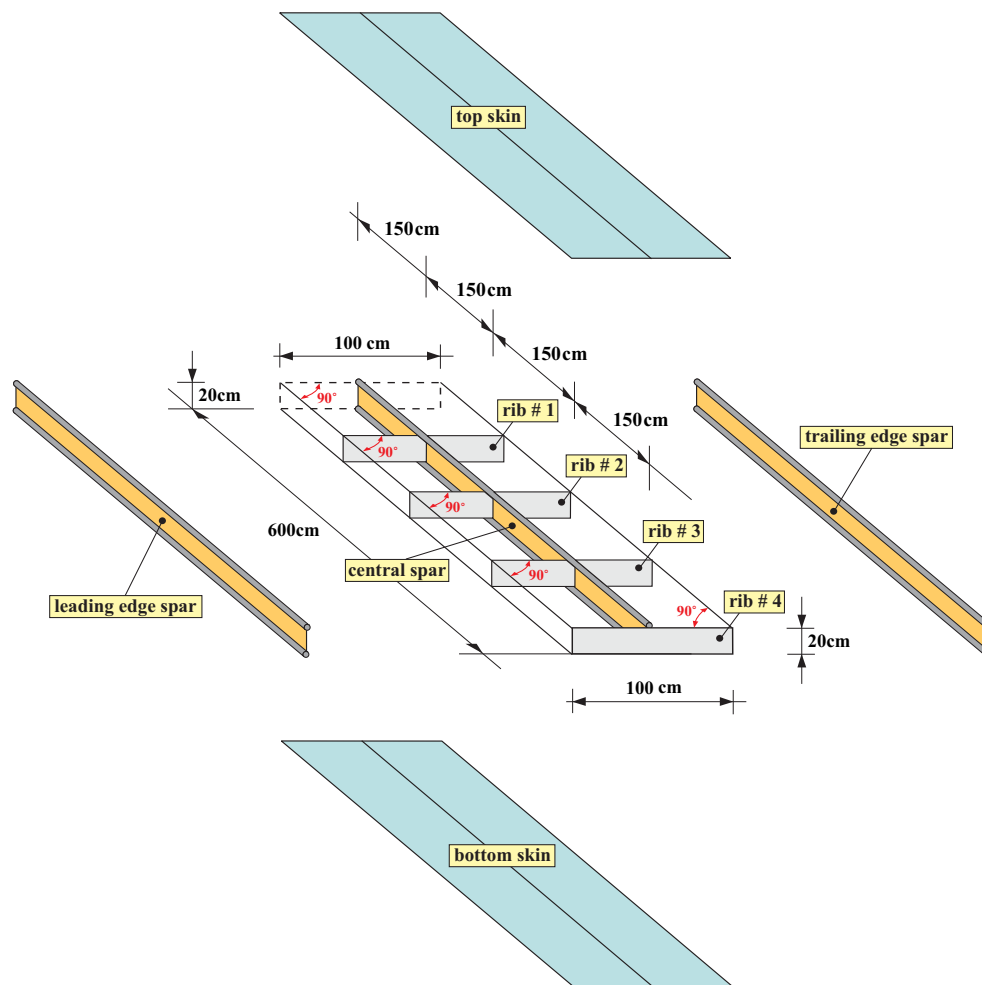
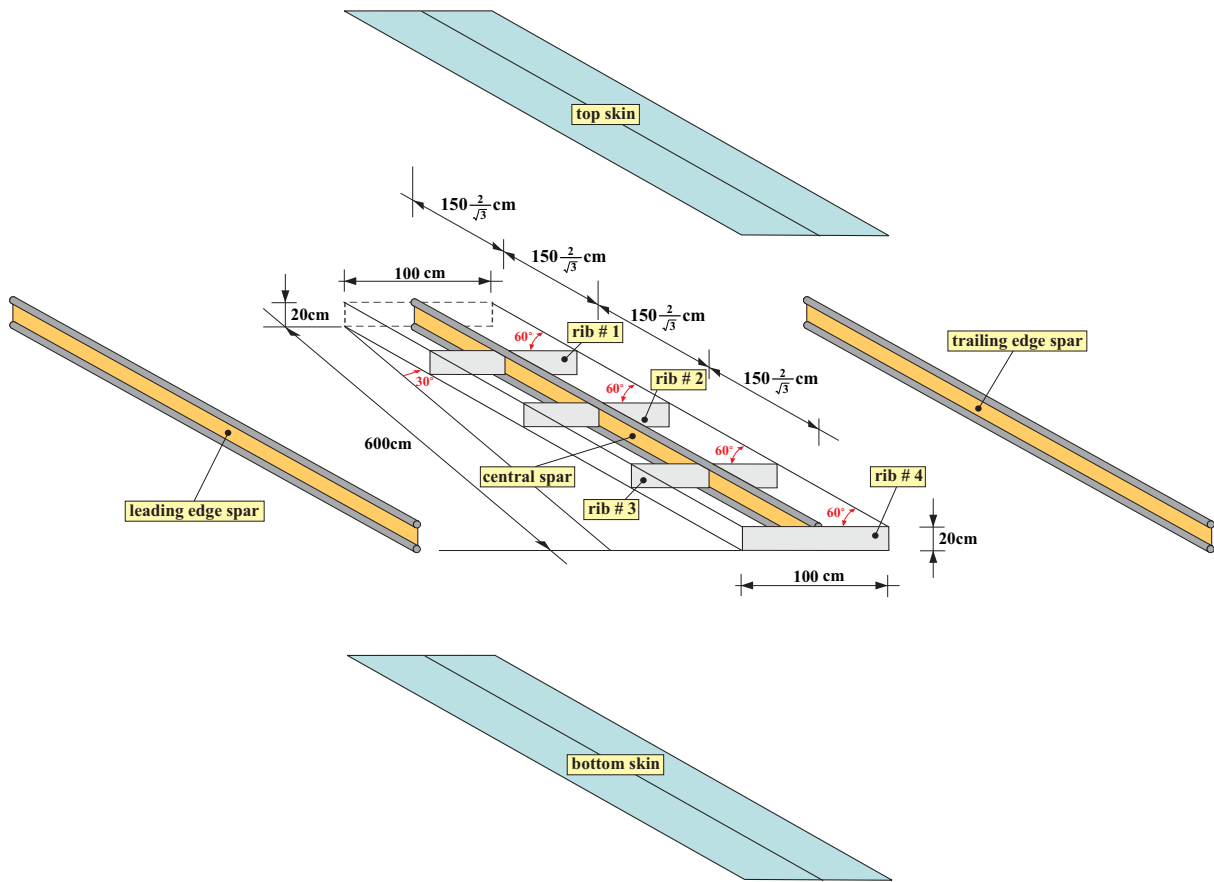
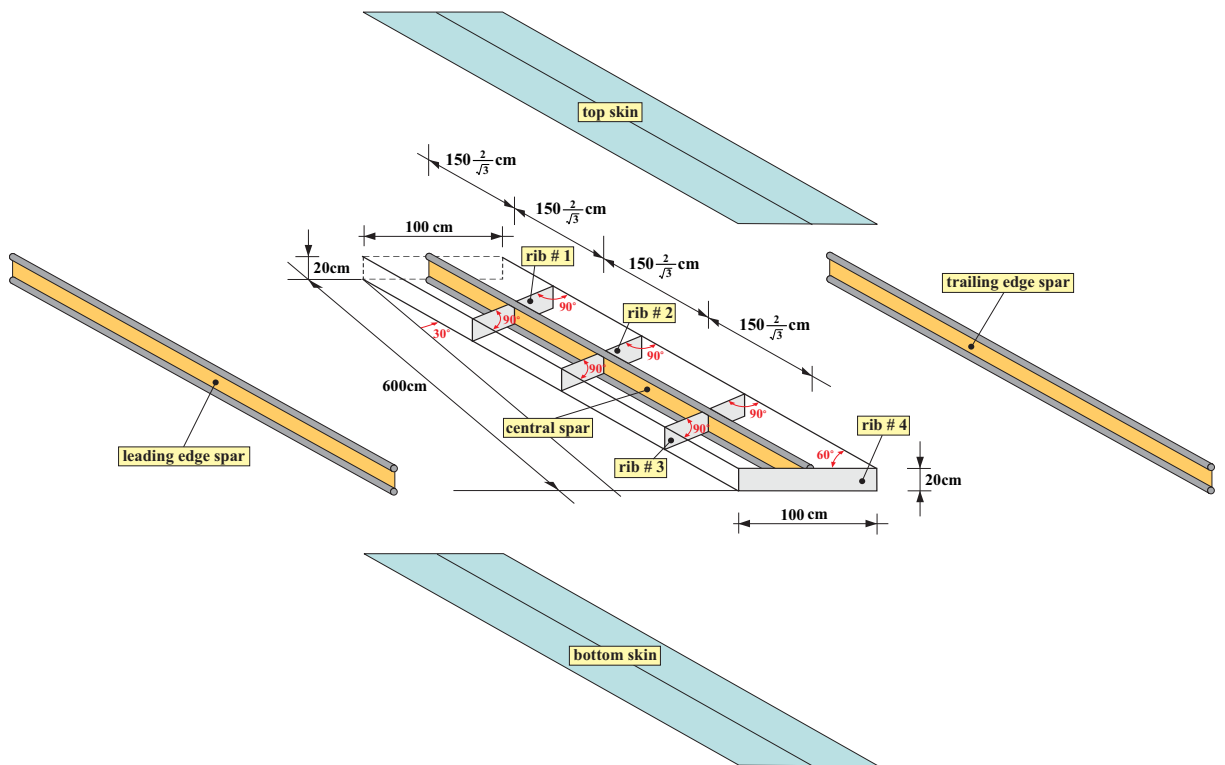

Figure 1. Unswept wing (model # 1): exploded view of the wing box structure showing spars, ribs, and top and bottom cover panels.
Figure 2. Swept wing (model # 2): exploded view of the wing box structure showing spars, ribs, and top and bottom cover panels.
Figure 3. Swept wing (model # 3): exploded view of the wing box structure showing spars, ribs, and top and bottom cover panels.
Consider the **unswept** wing (defined here as **model # 1**) whose wing box structure is shown in Figure 1. In addition, consider the **swept** wing (defined here as **model # 2**) whose wing box structure is shown in Figure 2. Finally, consider the **swept** wing (defined here as **model # 3**) whose wing box structure is shown in Figure 3.
length of the wing. Their thickness is 2.8 mm . The wing-box has **three spars** and **four ribs** (see Figures 1, 2, and 3 for details about the geometry). The thicknesses of the ribs is $t_1 = 2.5\text{ mm}$. At the top and bottom edges of the shear webs there are spar caps. For simplicity, please **do not model the spar caps**. For all the models # 1, # 2, and # 3, model the wing top and bottom panels, the shear webs of the spars and the ribs with 4-noded quadrilateral (QUAD4) shell elements. Assume **clamped boundary conditions** at the root of the wing. The material properties of **all** the wing components are the following: $E = 72\text{ GPa}$, $\nu = 0.30$, $\rho = 2700\text{ Kg/m}^3$. E is the elastic modulus, ν is Poissons's ratio and ρ is the density.
6. In addition to **rib #4**, mesh **rib #1**. Make sure there **are no coincident nodes on the same locations**. Calculate the modes and natural frequencies and discuss the differences you find with the previous findings. What happens to the first torsional mode? What happens to the first bending mode? What happens to the high frequency modes? What is the difference between the 3 models of Figures 1, 2, and 3?
7. In addition to **rib #4** and **rib #1**, mesh **rib #2**. Make sure there **are no coincident nodes on the same locations**. Calculate the modes and natural frequencies and discuss the differences you find with the previous findings. What happens to the first torsional mode? What happens to the first bending mode? What happens to the high frequency modes? What is the difference between the 3 models of Figures 1, 2, and 3?
8. In addition to **rib #4**, **rib #1**, and **rib #2**, mesh **rib #3**. Make sure there **are no coincident nodes on the same locations**. Calculate the modes and natural frequencies and discuss the differences you find with the previous findings. What happens to the first torsional mode? What happens to the first bending mode? What happens to the high frequency modes? What is the difference between the 3 models of Figures 1, 2, and 3?